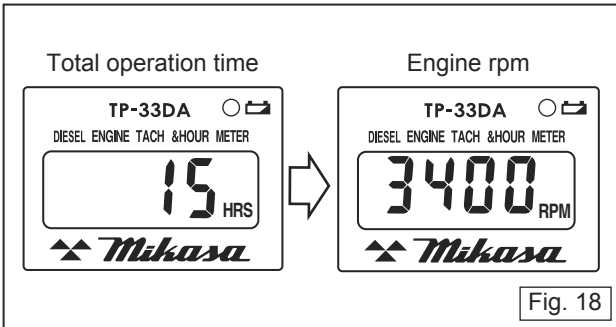

Fig. 18
9. If the engine starts, the “Engine RPM” will appear on the Tach/Hour meter. (Fig. 18) Also, once the engine speed increases, the buzzer will cease sounding.
7. If the engine starts, the “Engine RPM” will appear on the Tach/Hour meter. (Fig. 18) Once the engine speed increases, the buzzer stops. The engine comes with a safety starter switch. If the travel lever is not in the stop position, the cell starter will not work.